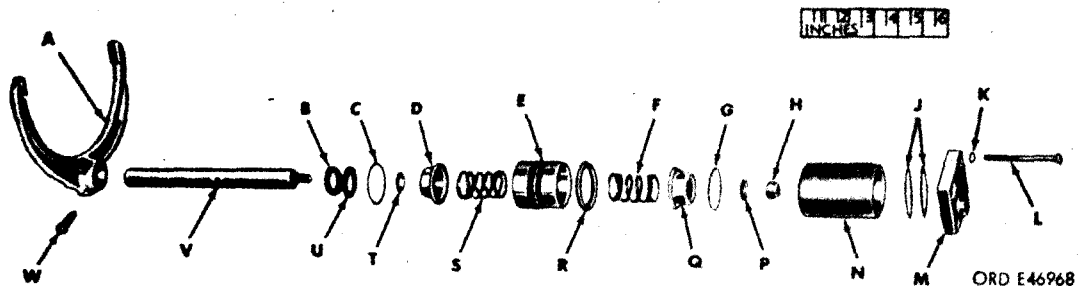

Figure 209. Shift air cylinder assembly - exploded view
(2) Shift air cylinder assembly. Complete disassembly of the shift air cylinder assembly (fig. 209) will not be necessary unless it is known to be defective. If rebuild is indicated, proceed as in (a) and (b) below.